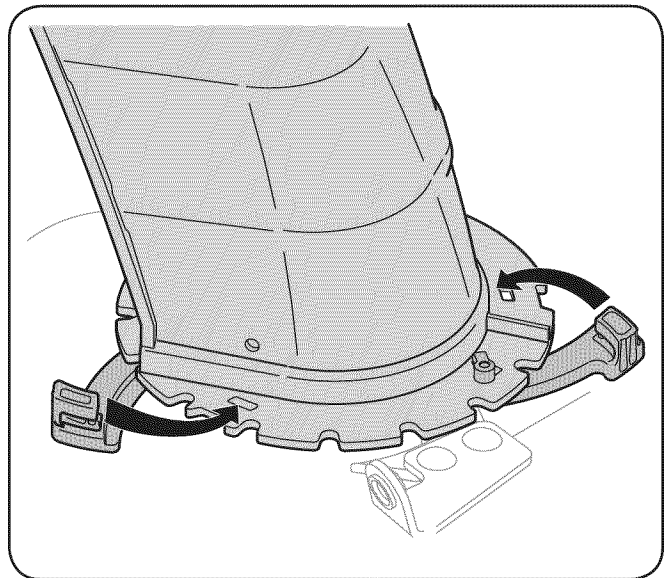

Figure 3-3
2. Close the flange keepers to secure the chute assembly to the chute base. The flange keepers will click into place when properly secure. See Fig. 3-3.